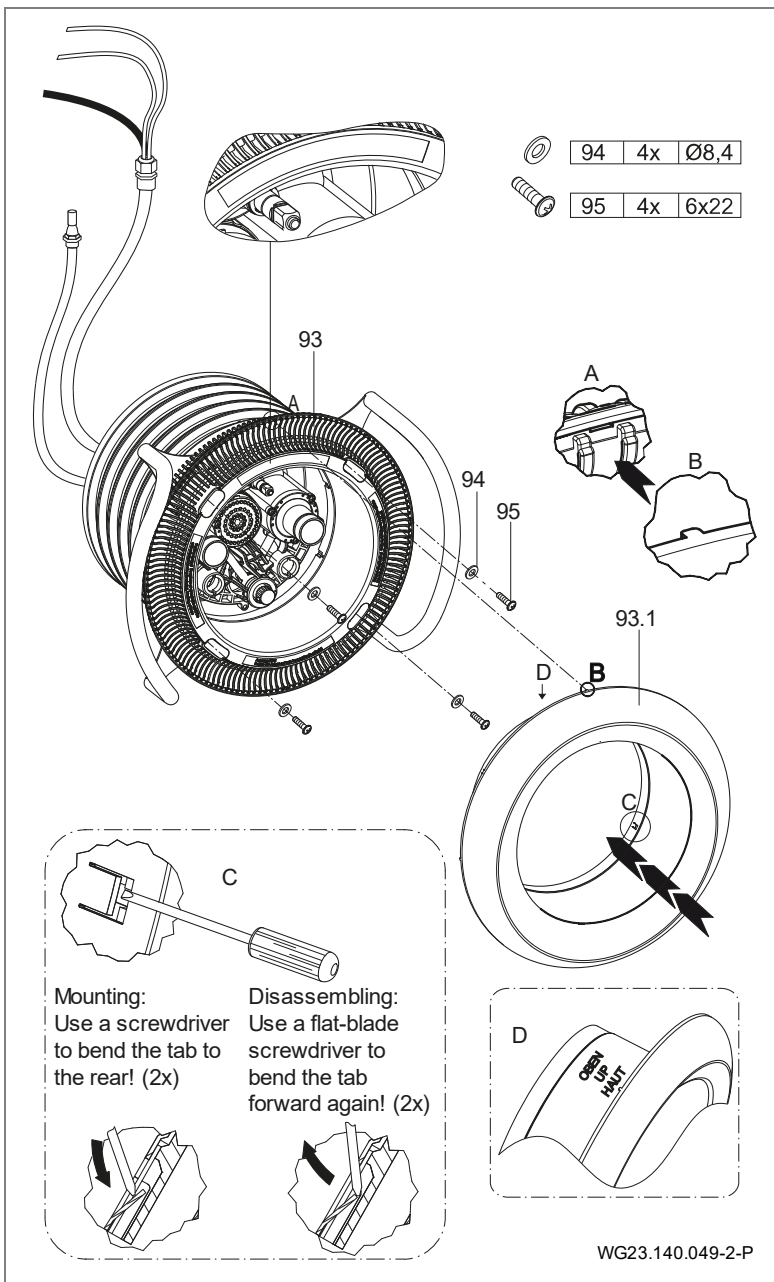
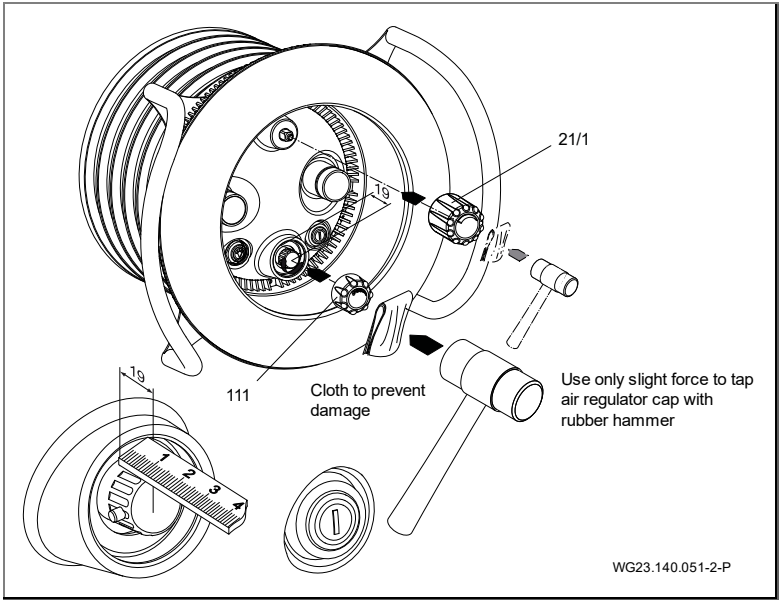

Fig. 18
Fig. 20
9. Place the suction panel (93) on the support ring (28) and fasten with four plain washers (94) and four tapping screws (95). (Fig. 18)
10. Align the stainless steel cover with the protruding centring nubs to the existing recesses of the suction panel (93) and press them together by hand. Observe the "UP" marking on the stainless-steel cover. To fasten the cover use a screwdriver to bend the two offset tabs towards the back. (Fig. 18)
12. Slide one O-ring (37) onto each pneumatic button (38/1; 38/2). Fasten the pneumatic hoses to the corresponding buttons using the hose clamps (46). Insert the two pneumatic buttons through the light cover (110) in the nozzle housing and lock by turning it clockwise. (Fig. 20)
1. Remove the caps for the volume regulator (21/1) and air regulator (111). On the BADU JET Primavera Deluxe, the grub screw must be loosened before pulling off the cap. See "Fig. 20"
2. Loosen the tapping screws (112) and remove the light cover (110).
3. Bend the two offset tabs on the stainless steel cover back towards the front and remove the stainless steel cover. See "Fig. 18"
4. Loosen the tapping screws (95) and remove the suction panel (93) and hand rail (70).
5. If necessary, loosen the tapping screws (61). Remove the nozzle housing (102.1). When doing so, be aware of the internal air line (4) which is fastened to the main housing (1).
6. Loosen the screws (52). Remove the handrail (70), support ring (28) and support ring seal (27).